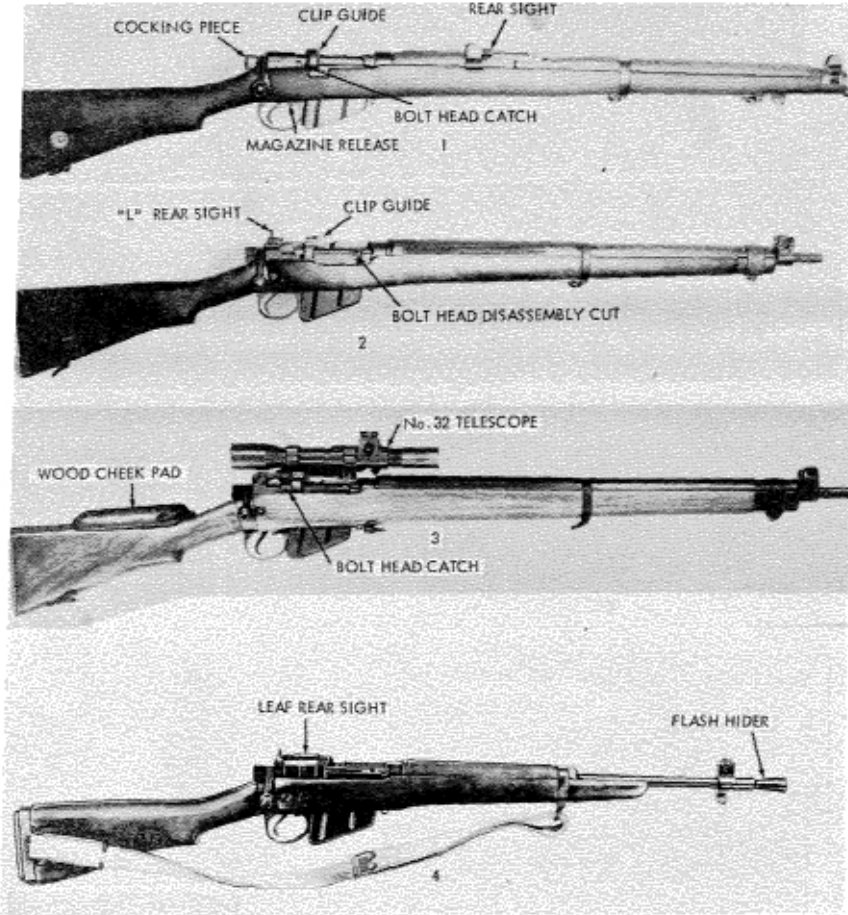

Figure 140. Lee Enfield rifles.
a. The .303-caliber (7.7-mm), manually-operated Lee Enfield rifle has been made in many different models; figure 140 depicts the more common varieties. The prominent magazine is a prime recognition feature for all Lee Enfields, and the older No. 1 rifle (fig 140) can be recognized by its snub-nosed muzzle. A sniper version of the No. 4 equipped with a telescope (fig 140) was issued, and a lightened version with a shortened forestock, the No. 5 (fig 140), was designed for jungle warfare. The various models of
(1) If clipped ammunition is available, insert the clip into the clip guides (fig 140), and with the thumb as close as possible to the clip, press the cartridges into the magazine. Remove the clip and repeat this action with a second clip so that 10 rounds are loaded into the magazine. When loading loose cartridges into empty clips, insure that the rims of the cartridges in the middle and on the ends are below the rims of the other two cartridges.
(2) Loose cartridges can be individually pressed into the magazine to insure that the rim of each cartridge is in front of the rim of the round that preceded it.
(3) Individual cartridges can be directly inserted into the chamber.
d. If the rifle is not to be fired immediately, render it safe by rotating the safety at the left rear of the receiver fully to the rear. This locks the firing pin and bolt. An alternate method is to grasp the cocking piece (fig 140) firmly, pull it to the rear, and after pressing the trigger, ease the cocking piece forward. Release the trigger and bring the cocking piece to rest at the half cock position. This procedure is not recommended.
(1) If the rifle is a No. 1, press the slide locks on the rear sight (fig 140), and move the slide along the leaf until the index mark on the slide lines up with the number on the leaf that corresponds with the range in hundreds of yards. Final fire adjustments can be made by rotating the worm screw on the slide.
(2) If the rifle is an early No. 4 with an L rear sight (fig 140), flip the sight to the desired range (300 or 600 yards). The 300-yard aperture is used for firing at 400 yards if the bayonet is attached.
(3) If the rifle is a No. 4 with an adjustable rear sight or a No. 5 carbine (fig 140), lift the leaf and move the slide along it until the index mark is aligned with the number denoting the range in hundreds of yards. The slide is moved either by pressing a catch on the slide or by turning an adjusting screw at the top of the slide, depending on the model of the sight. The fixed large battle aperture can be used when the sight is folded down; this is set for about a 300-yard range. By aiming at a man's chest with this sight, a hit should be scored on some part of his body at any range up to 300 yards. The sniper rifles do not have the battle aperture.
(4) The No. 32 telescope is used on the No. 4 Mark 1T; with minor changes, it is also used on the L42 sniper's rifle. The telescope is set for range and deflection by rotating its knobs, and the elevation knob at top is marked to indicate hundreds of yards.
g. To unload or clear the rifle, press the magazine release (fig 140) and remove the magazine. Open the bolt and catch any ejected cartridge. Push any remaining cartridges forward, out of the magazine, and insert the empty magazine into the rifle, striking it with the heel of the hand to insure that it is fully seated. Close the bolt and press the trigger.
(a) If it is a No. 1 rifle, open the bolt and draw it fully to the rear; then press up on the bolt head until it is released by the bolt head catch (fig 140) and the head is vertical. This requires considerable force. Pull the bolt rearward out of the receiver.
(b) If it is a No. 4 Mark 1*, MK1/3 or L37, open the bolt and draw it slightly to the rear until the bolt head is aligned with the disassembly cut in the receiver (fig 140). Turn the bolt head up and, after lifting the rear sight to its vertical position, pull the bolt out of the receiver.
(fig 140), and pull the bolt fully rearward (holding the catch depressed). Turn the bolt head to a vertical position and, after lifting the rear sight, pull the bolt to the rear out of the rifle.
b. To reassemble the rifle, insure that the bolt head is screwed into the bolt as far as possible; then back it off until it is in line with the guide rib of the bolt. Insert the bolt into the receiver; the rear sight leaf of the No. 4 and No. 5 rifles must be vertical. When the bolt head is just forward of the shoulder, turn the head down. If the rifle is a No. 4 Mk1*, MK1/3, or L37 press the bolt forward until the bolt head is aligned with the cut (fig 140) in the receiver; seat the bolt head into this cut and close the bolt. For all other rifles, as soon as the bolt head clears the shoulder, press it down, against the spring catch, until the bolt can be pushed forward. Reinsert the magazine (para 188g).